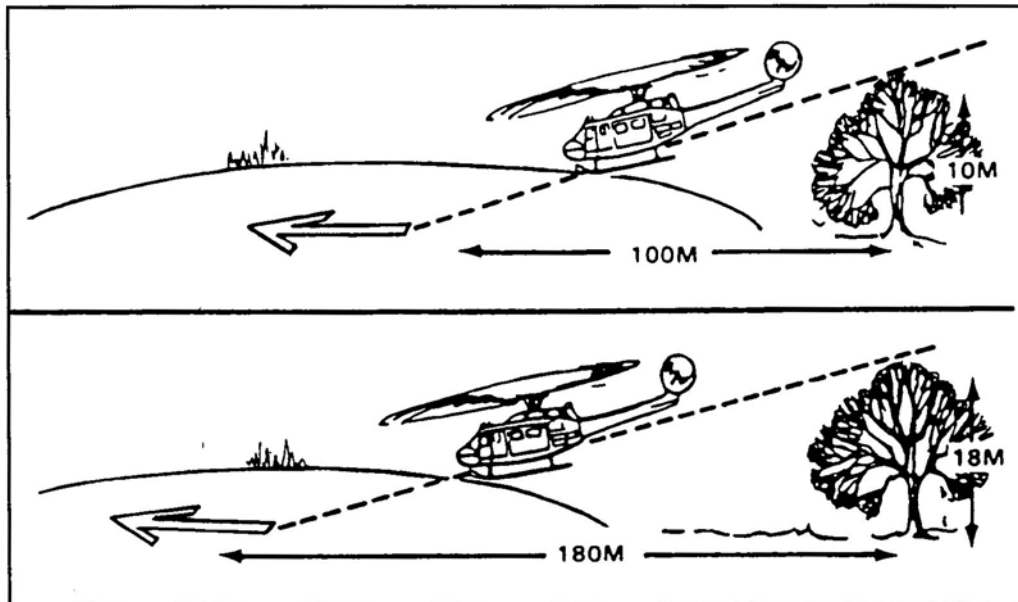

Figure 1. Landing site distance from obstacles.
- (1) A helicopter requires a relatively level landing area 30 meters in diameter. This does not mean that a loaded helicopter can land and take off from an area of that size. Most helicopters cannot go straight up or down when fully loaded. Therefore, a larger landing site and better approach and departure routes are required.
- (2) When obstacles are in the approach or departure routes, a 10 to 1 ratio must be used to lay out the landing site (Figure 1). For example, during the approach and departure, if the helicopter must fly over trees that are 15 meters high, the landing site must be at least 150 meters long ( $10 \times 15 = 150$  meters).